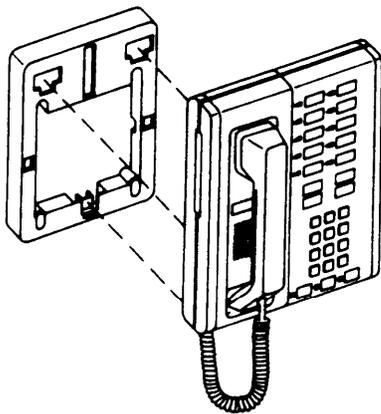

Figure 10
14. Gently slide the voice terminal downward so the three tabs fit into the smaller part of the corresponding mounting slots (see Figure 10).